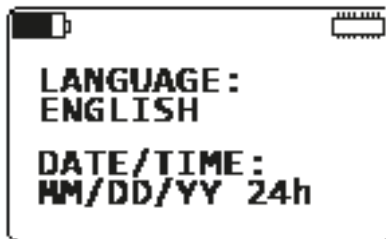

Figure 5. Language and Date/Time Format screen
1. With the Language and Date/Time Format screen (Figure 5) displayed, press the Enter \leftarrow button. This initiates selection mode; the setting under the Language field will change to blinking reversed text.